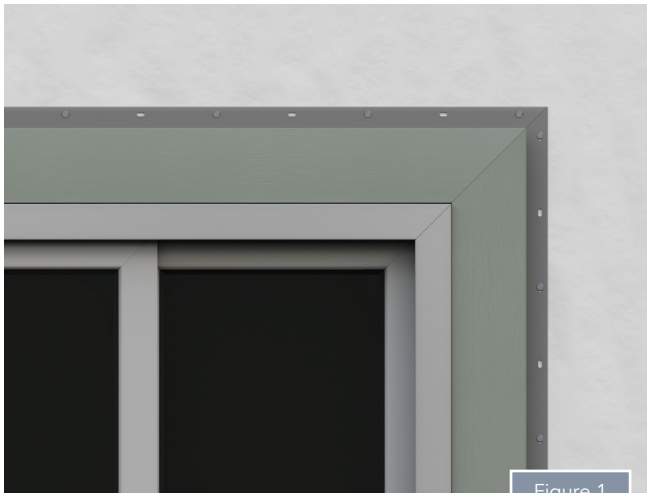

Figure 1
- Fasten the casing trims to the wall around the opening every 8" to 12" along the nail hem using galvanized, stainless, or corrosion-resistant nails or screws (Figure 1).